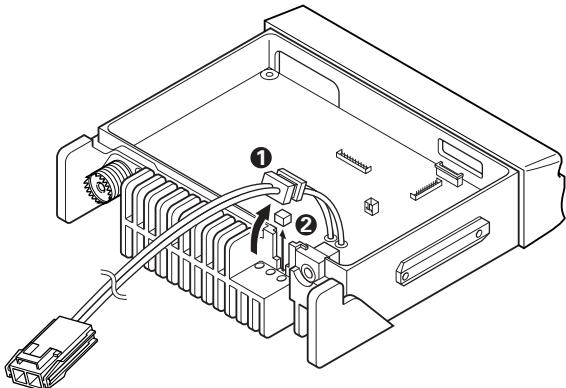

Fig. 3
- Lift the DC cord bushing (①) from the chassis. Peel the pad as shown in Figure 3 (②).